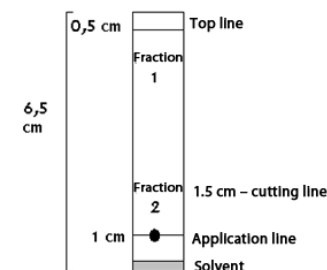

Figure 1 – Cutting chromatography plates
Use Whatman plate (1) and a silica gel plate (2) 6.5 cm long and 1 cm wide, as shown in figure 1. Once the cooling time has elapsed, add a drop of the material to each of the plates. Place the Whatman plate (1) in a chromatography tank containing methanol PA, and the silica gel plate (2) in a chromatography tank containing 0.9% NaCl. Wait until the solvents migrate to the top lines of the plates, which can happen at different times. Remove the plates from the chromatography tanks. Cut both the plates 1.5 cm from the application point. Calculate labeling efficiency using the formula below. Analyze the results of labeling efficiency in accordance with table 2.